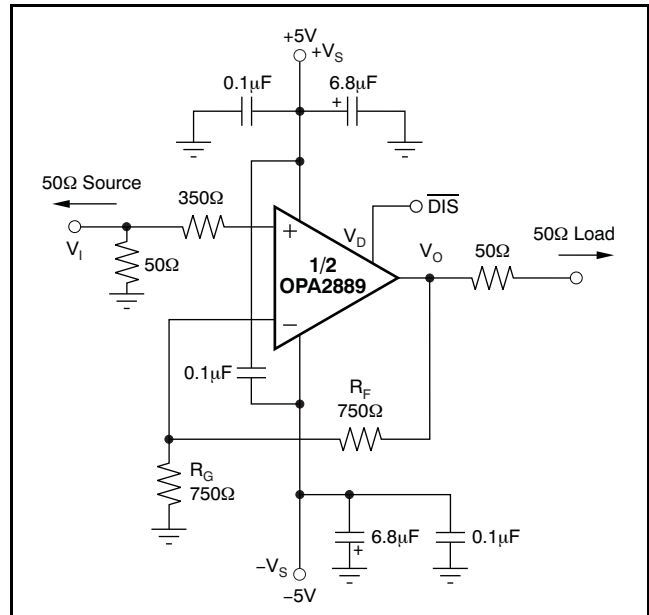
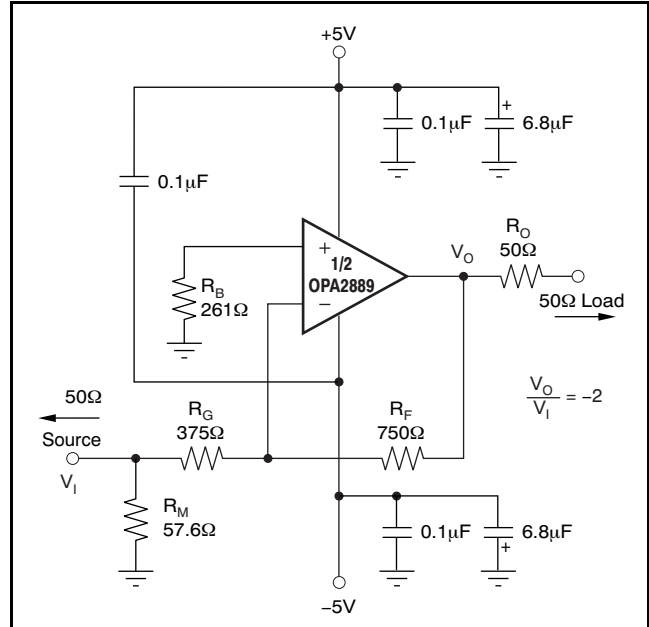

Figure 50. DC-Coupled, G = +2, Bipolar Supply, Specification and Test Circuit
Figure 60. Gain of $-2V/V$ Example Circuit
At $T_A = +25^\circ C$, $G = +2V/V$, $R_F = 750\Omega$, and $R_L = 100\Omega$, unless otherwise noted. See Figure 50.
Figure 50 shows the dc-coupled, gain of +2V/V, dual power-supply circuit configuration used as the basis of the ± 5 V Electrical Characteristics and ± 5 V Typical Characteristics. This illustration is for one channel; the other channel is connected similarly. For test purposes, the input impedance is set to 50 Ω with a resistor to ground and the output impedance is set to 100 Ω . Voltage swings reported in the Electrical Characteristics are taken directly at the input and output pins, while output powers (dBm) are at the matched 50 Ω load. For the circuit of Figure 50, the total effective load will be 100 Ω || 1.5k Ω . The disable control line (MSOP-10 package only) is typically left open for normal amplifier operation. Two optional components are included in Figure 50. An additional resistor (350 Ω) is included in series with the noninverting input. Combined with the 25 Ω dc source resistance looking back towards the signal generator, this resistor gives an input bias current cancelling resistance that matches the 375 Ω source resistance seen at the inverting input (see the DC Accuracy and Offset Control section). In addition to the usual power-supply decoupling capacitors to ground, a 0.1 μ F capacitor is included between the two power-supply pins. In practical printed circuit board (PCB) layouts, this optional-added capacitor typically improves the 2nd-harmonic distortion performance by 3dB to 6dB.
A good rule of thumb is to target the parallel combination of R_F and R_G (see Figure 50) to be less than approximately 400 Ω . The combined impedance $R_F \parallel R_G$ interacts with the inverting input capacitance, placing an additional pole in the feedback network and thus, a zero in the forward response. Assuming a 2pF total parasitic on the inverting node, holding $R_F \parallel R_G < 400\Omega$ keeps this pole above 160MHz. By itself, this constraint implies that the feedback resistor R_F can increase to several k Ω at high gains. This increase in resistor size is acceptable as long as the pole formed by R_F and any parasitic capacitance appearing in parallel is kept out of the frequency range of interest.
Voltage-feedback op amps exhibit decreasing closed-loop bandwidth as the signal gain increases. In theory, this relationship is described by the Gain Bandwidth Product (GBP) shown in the Electrical Characteristics. Ideally, dividing GBP by the noninverting signal gain (also called the Noise Gain, or NG) predicts the closed-loop bandwidth. In practice, this principle only holds true when the phase margin approaches 90°, as it does in high gain configurations. At low gains (increased feedback factors), most amplifiers exhibit a more complex response with lower phase margin. The OPA2889 is compensated to give a slightly peaked response in a noninverting gain of 2V/V (see Figure 50). This compensation results in a typical gain of +2V/V bandwidth of 60MHz, far exceeding that predicted by dividing the 75MHz GBP by 2. Increasing the gain causes the phase margin to approach 90° and the bandwidth to more closely approach the predicted value of (GBP/NG). At a gain of +10, the 8MHz bandwidth shown in the Electrical Characteristics agrees closely with that predicted using the simple formula and the typical GBP of 75MHz.
The frequency response in a gain of +2V/V may be modified to achieve exceptional flatness simply by increasing the noise gain to 2.5V/V. One way to modify the response without affecting the +2V/V signal gain, is to add a 750 Ω resistor across the two inputs, as shown in the circuit of Figure 50. A similar technique may be used to reduce peaking in unity-gain (voltage follower) applications. For example, by using a 750 Ω feedback resistor along
The OPA2889 is a general-purpose, wideband, voltage-feedback op amp; therefore, all of the familiar op amp application circuits are available to the designer. Inverting operation is one of the more common requirements and offers several performance benefits. See Figure 60 for a typical inverting configuration where the I/O impedances and signal gain from Figure 50 are retained in an inverting circuit configuration.
In the inverting configuration, three key design considerations must be noted. The first is that the gain resistor (R_G) becomes part of the signal channel input impedance. If input impedance matching is desired (which is beneficial whenever the signal is coupled through a cable, twisted-pair, long PCB trace, or other transmission line conductor), R_G may be set equal to the required termination value and R_F adjusted to give the desired gain. This consideration is the simplest approach and results in optimum bandwidth and noise performance. However, at low inverting gains, the resultant feedback resistor value can present a significant load to the amplifier output. For an inverting gain of $-2V/V$, setting R_G to 50Ω for input matching eliminates the need for R_M but requires a 100Ω feedback resistor. This approach has the interesting advantage that the noise gain becomes equal to $2V/V$ for a 50Ω source impedance—the same as the noninverting circuits considered in Figure 60. The amplifier output, however, now sees the 100Ω feedback resistor in parallel with the external load. In general, the feedback resistor should be limited to the 200Ω to 1.5kΩ range. In this case, it is preferable to increase both the R_F and R_G values (see Figure 60), and then achieve the input matching impedance with a third resistor (R_M) to ground. The total input impedance becomes the parallel combination of R_G and R_M .
The second major consideration, touched on in the previous paragraph, is that the signal source impedance becomes part of the noise gain equation and influences the bandwidth. For the example in Figure 60, the R_M value combined in parallel with the external 50Ω source impedance yields an effective source driving impedance of $50\Omega \parallel 57.6\Omega = 26.7\Omega$. This impedance is added in series with R_G for calculating the noise gain (NG). The resulting NG is $2.86V/V$ for Figure 60, as opposed to only $2V/V$ if R_M could be eliminated as discussed above. Therefore, the bandwidth is slightly lower for the gain of $-2V/V$ circuit of Figure 60 than for the gain of $+2V/V$ circuit of Figure 50.
The third important consideration in inverting amplifier design is setting the bias current cancellation resistor on the noninverting input (R_B). If this resistor is set equal to the total dc resistance looking out of the inverting node, the output dc error, as a result of the input bias currents, is reduced to $(\text{Input Offset Current}) \times R_F$. If the 50Ω source impedance is dc-coupled in Figure 60, the total resistance to ground on the inverting input is 402Ω.
The OPA2889 provides good distortion performance into a 200Ω load on $\pm 5V$ supplies. Relative to alternative solutions, it provides exceptional performance into lighter loads and/or operating on a single +5V supply. Generally, until the fundamental signal reaches very high frequency or power levels, the 2nd-harmonic dominates the distortion with a negligible 3rd-harmonic component. Focusing then on the 2nd-harmonic, increasing the load impedance improves distortion directly. Remember that the total load includes the feedback network; in the noninverting configuration (see Figure 50), this total is the sum of $R_F + R_G$, while in the inverting configuration it is just R_F . Also, providing an additional supply-decoupling capacitor ($0.1\mu F$) between the supply pins (for bipolar operation) improves the 2nd-order distortion slightly (3dB to 6dB). Operating differentially also lowers 2nd-harmonic distortion terms (see the plot on the front page).
Evaluating these two equations for the OPA2889 circuit and component values (see Figure 50) gives a total output spot noise voltage of 18.2nV/√Hz and a total equivalent input spot noise voltage of 9.1nV/√Hz. This total includes the noise added by the bias current cancellation resistor (350Ω) on the noninverting input. This total input-referred spot noise voltage is slightly higher than the 8nV/√Hz specification for the op amp voltage noise alone. This result is the case as long as the impedances appearing at each op amp input are limited to the
previously recommend maximum value of 400Ω. Keeping both ($R_F \parallel R_G$) and the noninverting input source impedance less than 400Ω satisfies both noise and frequency response flatness considerations. Because the resistor-induced noise is relatively negligible, additional capacitive decoupling across the bias current cancellation resistor (R_B) for the inverting op amp configuration of Figure 60 is not required.
The balanced input stage of a wideband voltage-feedback op amp allows good output dc accuracy in a wide variety of applications. The power-supply current trim for the OPA2889 gives even tighter control than comparable amplifiers. Although the high-speed input stage does require relatively low $\pm 0.75\mu\text{A}$ input bias current, the close matching between them may be used to reduce the output dc error caused by this current. The total output offset voltage may be reduced by matching the dc source resistances appearing at the two inputs. This matching reduces the output dc error resulting from the input bias currents to the offset current times the feedback resistor. Evaluating the configuration of Figure 50, and using worst-case +25°C input offset voltage and current specifications, gives a worst-case output offset voltage equal to: